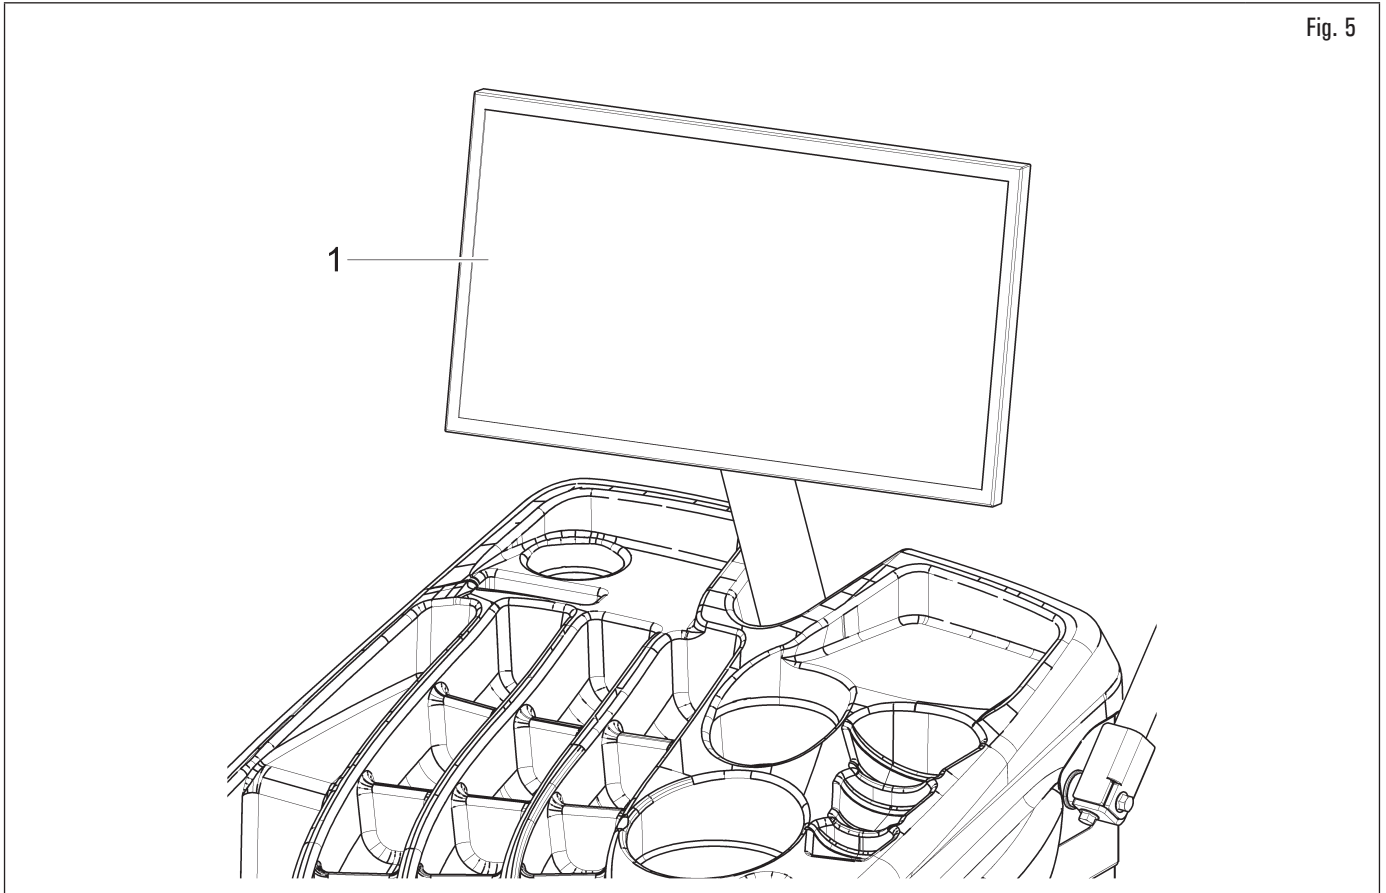

Fig. 5
The wheel balancers are equipped with a touch control panel (Fig. 5 ref. 1).